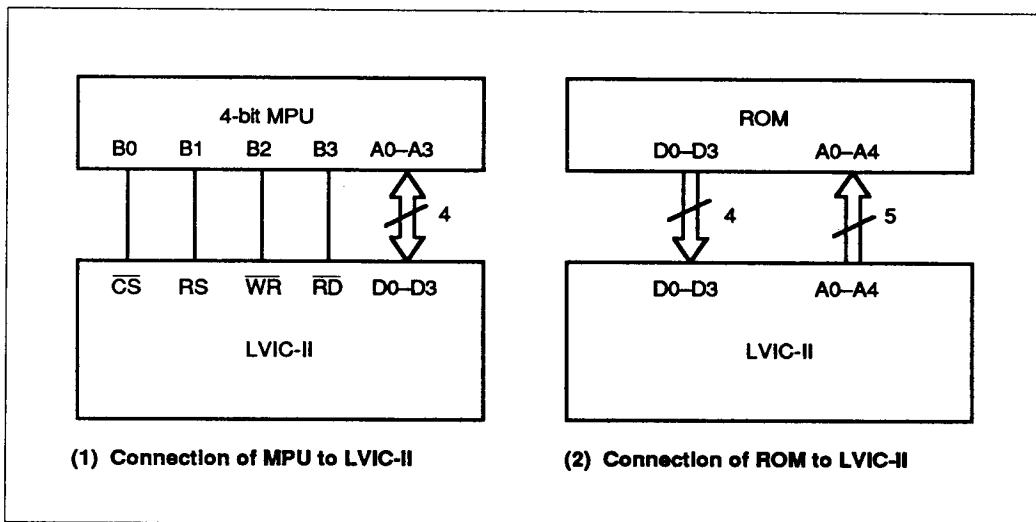

Figure 3 Connection of MPU or ROM to LVIC-II
**Internal Register Programming Method:** An MPU or ROM is used to write data into the LVIC-II's internal registers to control functions. Figure 3 shows the connection of either an MPU or ROM to the LVIC-II. Although figure 3 (1) shows an example of the use of a 4-bit microprocessor, the LVIC-II can also be connected directly to the host MPU bus since the LVIC-II MPU bus is compatible with the 4-MHz bus of 80-series microcomputers.